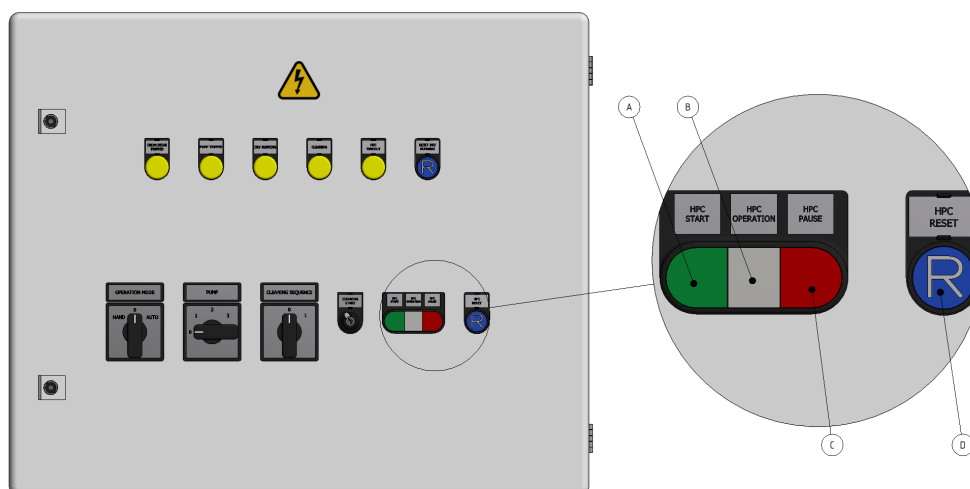

Figure 6.2.1 Control cabinet, filter with integrated HPC.
If the filter is HPC equipped, a control cabinet like the one in figure 6.2.1 below is used.
1. Turn the operating mode switch to AUTO mode (see figure 6.2.1)
2. Start the HPC programme with HPC START (see figure 6.2.1). Indicator light HPC OPERATION indicates that the HPC programme is running.